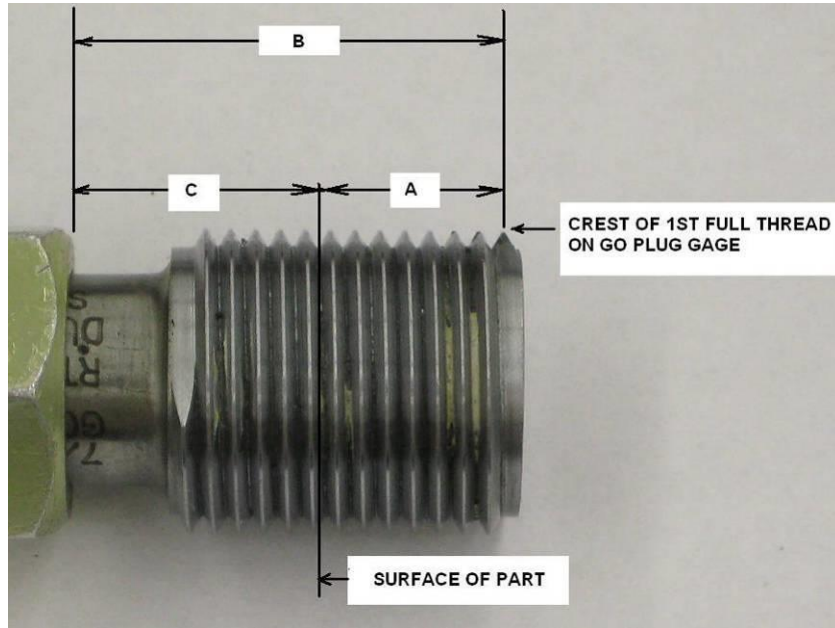

Figure 1 Alternative Method to Verify Thread Depth
1. Use the appropriate attribute thread gage as called out on the PCB drawing. To determine thread depth, calculate the number of gage turns required by multiplying the thread pitch by the depth or length of thread, then subtracting one (1) turn for the lead of the gage.
3. Example: $\frac{1}{4}$ - 28 threads x .250 deep. See Figure 1.